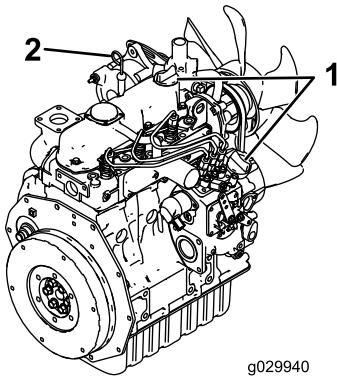

Figure 25
- Clean around the oil dipstick and oil-filler cap (Figure 25).